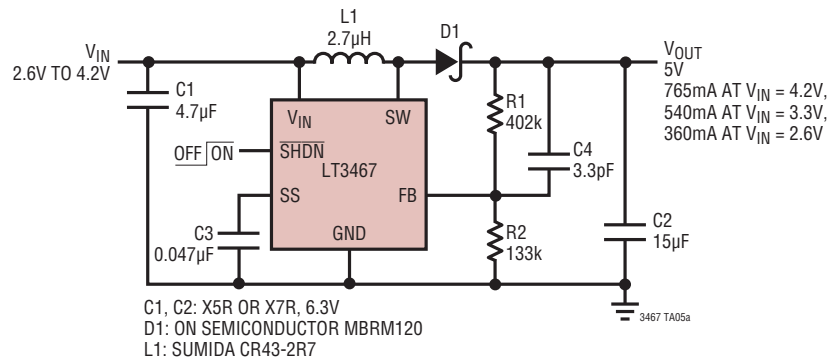
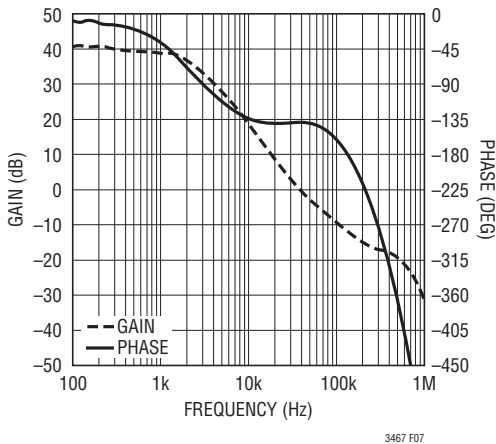

Figure 2. Single Li-Ion Cell to 5V Boost Converter (Same as 1st Page Application)
Figure 7. Bode Plot of 3.3V to 5V Application
**Start-Up Waveform (Figure 2 Circuit)**
Supply Current of Figure 2 During Start-Up Without Soft-Start Capacitor
Supply Current of Figure 2 During Start-Up with a 47nF Soft-Start Capacitor
A phase lead zero can be intentionally introduced by placing a capacitor (C4) in parallel with the resistor (R1) between VOUT and VFB as shown in Figure 2. The frequency of the zero is determined by the following equation.
To set the output voltage, select the values of R1 and R2 (see Figure 2) according to the following equation.
Using the circuit of Figure 2 as an example, the following table shows the parameters used to generate the Bode plot shown in Figure 7.
From Figure 7, the phase is  $-138^\circ$  when the gain reaches 0dB giving a phase margin of  $42^\circ$ . This is more than adequate. The crossover frequency is 37kHz.